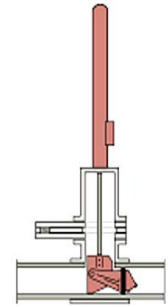

Figure 6 Plugging head in pipe
3. Opening the isolation valve, inserting the plugging head to isolate the section of pipe (Figure 6), withdrawing the plugging head when work is completed on the section of pipe, closing the isolation valve and removing the plugging machine.